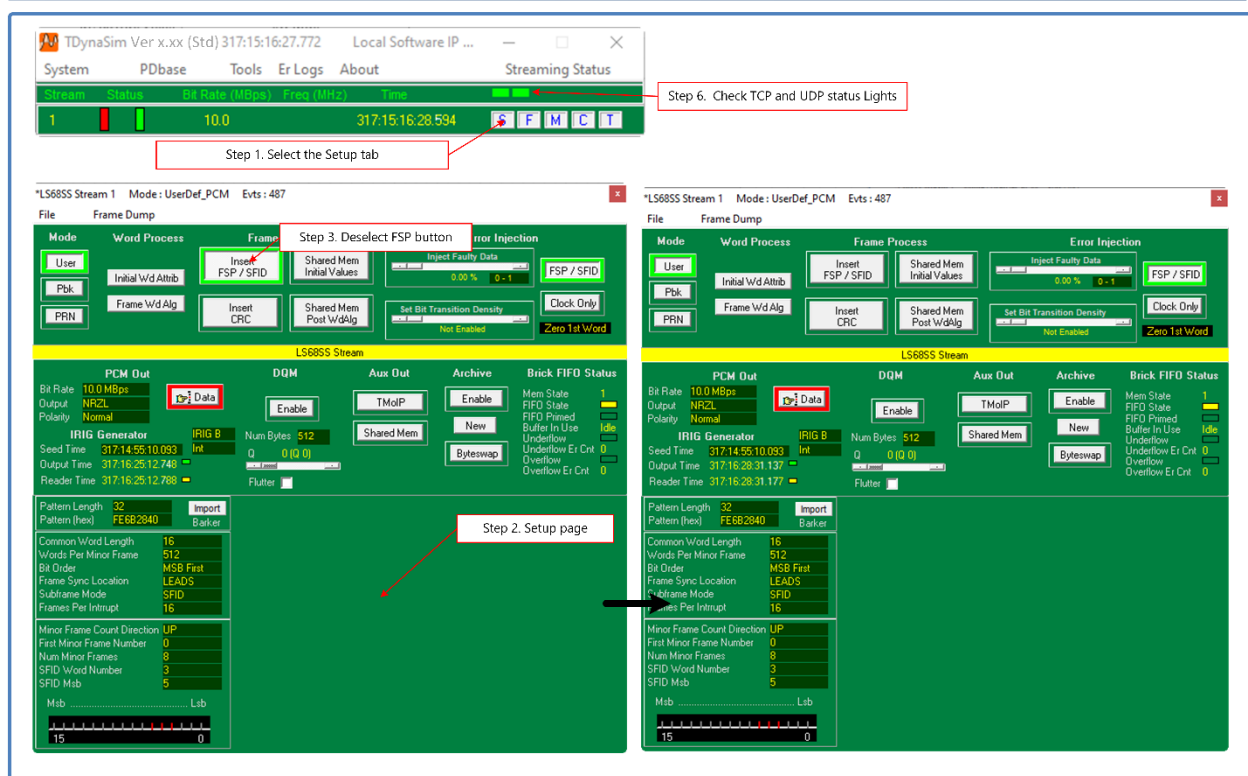

Figure 5-8 TDynaSim Initial Setup Steps
- 7.) Perform the initial streaming setups in TDynaSim. Select the "S" button from the launch banner window and then follow the steps outline in Figure 5-8.